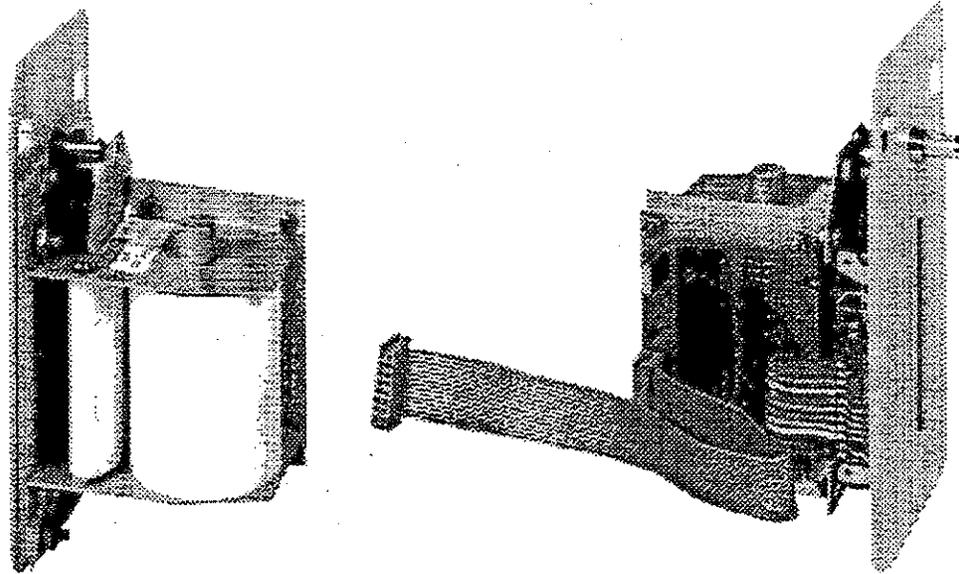

Figure 1-6. Paper Roll & Ribbon Cable
9. Pass end of paper over guide bar and into printer mechanism loading slot see Figure 1-6.